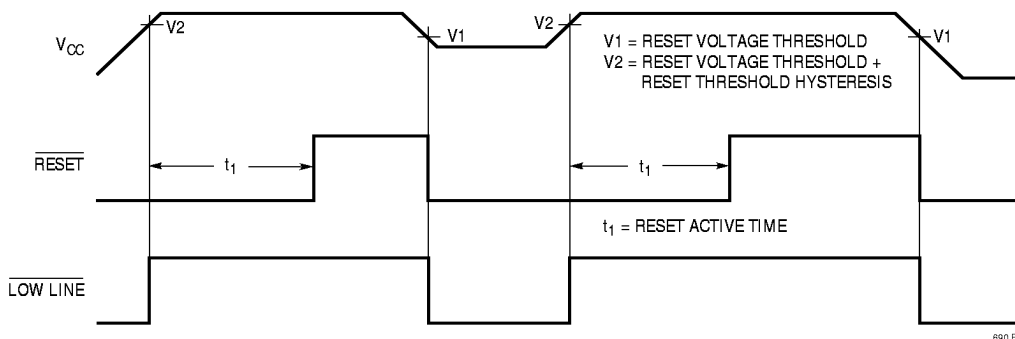

Figure 1. Reset Active Time
**LOW LINE:** Logic Output from Comparator C1. LOW LINE indicates a low line condition at the  $V_{\text{CC}}$  input. When  $V_{\text{CC}}$  falls below the reset voltage threshold (4.65V typically), LOW LINE goes low. As soon as  $V_{\text{CC}}$  rises above the reset voltage threshold, LOW LINE returns high (see Figure 1). LOW LINE goes low when  $V_{\text{CC}}$  drops below  $V_{\text{BATT}}$  (see Table 1).
The LTC690 family uses a bandgap voltage reference and a precision voltage comparator C1 to monitor the 5V supply input on  $V_{CC}$  (see Block Diagram). When  $V_{CC}$  falls below the reset voltage threshold, the  $\overline{\text{RESET}}$  output is forced to active low state. The reset voltage threshold accounts for a 5% variation on  $V_{CC}$ , so the  $\overline{\text{RESET}}$  output becomes active low when  $V_{CC}$  falls below 4.75V (4.65V typical). On power-up, the  $\overline{\text{RESET}}$  signal is held active low for a minimum of 35ms for the LTC690/LTC691 (140ms for the LTC694/LTC695) after reset voltage threshold is reached to allow the power supply and microprocessor to stabilize. The reset active time is adjustable on the LTC691/LTC695. On power-down, the  $\overline{\text{RESET}}$  signal remains active low even with  $V_{CC}$  as low as 1V. This capability helps hold the microprocessor in stable shutdown condition. Figure 1 shows the timing diagram of the  $\overline{\text{RESET}}$  signal.